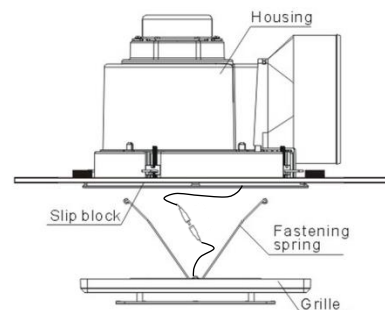

Fig. 4 – Fix the fan in place and install cover
11. Position fan in hole and with screwdriver, rotate mounting screws until slip blocks firmly secure fan onto ceiling plaster. *Do not over-tighten.* (Fig 4)
12. Replace front fascia by locating spring hole slots in body or fan. (Fig 4).